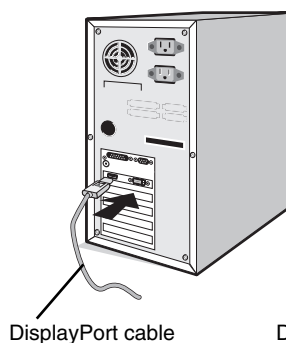

Figure A.1
2. **For a PC with DisplayPort output:** Connect the DisplayPort cable to the connector of the display card in your system (Figure A.1).